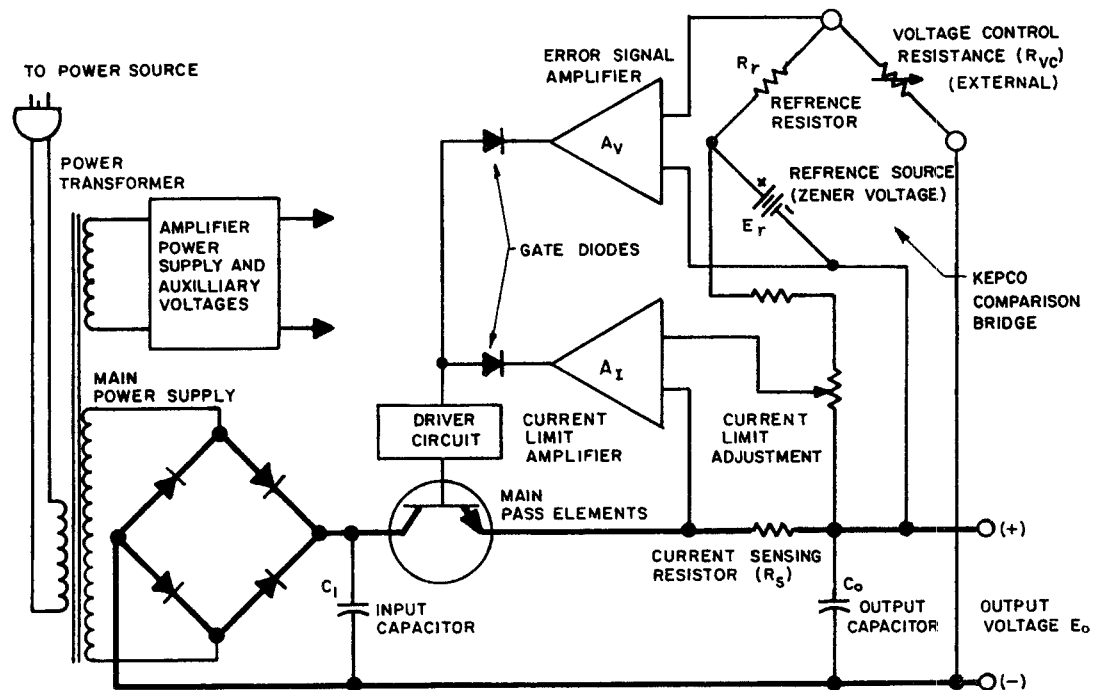

FIG. 4-1 SIMPLIFIED DIAGRAM, PAT POWER SUPPLIES.
(References in CAPITAL LETTERS refer to the nomenclature used in FIG. 4-1.)
4-1 SIMPLIFIED DIAGRAM DISCUSSION. (Refer to FIG. 4-1.)
- a) A-C INPUT CIRCUIT. A-C input power is introduced through rear barrier-strip TB1, terminals (1) and (2). Terminal (3) is connected to the chassis and should always be returned to a-c ground. The fuse (F1) protects the primary of the power transformer (T201) from excessive current. T201 has two primary windings which are connected either in parallel (for 115V a-c service) or in series (for 230V a-c service).
- e) **THE COMPARISON BRIDGE.** This 4-arm electrical bridge circuit is the regulating and controlling element in many Kepco Power Supplies. In the PAT models it consists of the reference voltage E_R (CR8), the reference resistor R_R (R15 and the optional bridge current adjustment rheostat R16), the voltage control resistance R_{VC} [either the optional internal control R13 or the resistor externally applied between terminals (11)–(12) on TB1], and the output voltage E_O . As shown in FIG. 4-1, the internal reference voltage E_R in series with the reference resistance R_R is continuously compared with the output voltage E_O in series with the voltage control resistance R_{VC} . At balance ($E_{AA'} = 0$), a constant bridge current I_B flows through the bridge, keeping the error signal at bridge terminals A–A' at approximately zero volts. Any deviation in E_O caused by a-c source, load variations, or other influences will tend to change I_B in the bridge circuit and thereby produce an error signal at the bridge terminals A–A'. This error signal is then amplified by the error signal amplifier A_V and acts as a control signal for the series regulator or pass element changing the voltage drop across it in such a way as to restore the previous output voltage level.